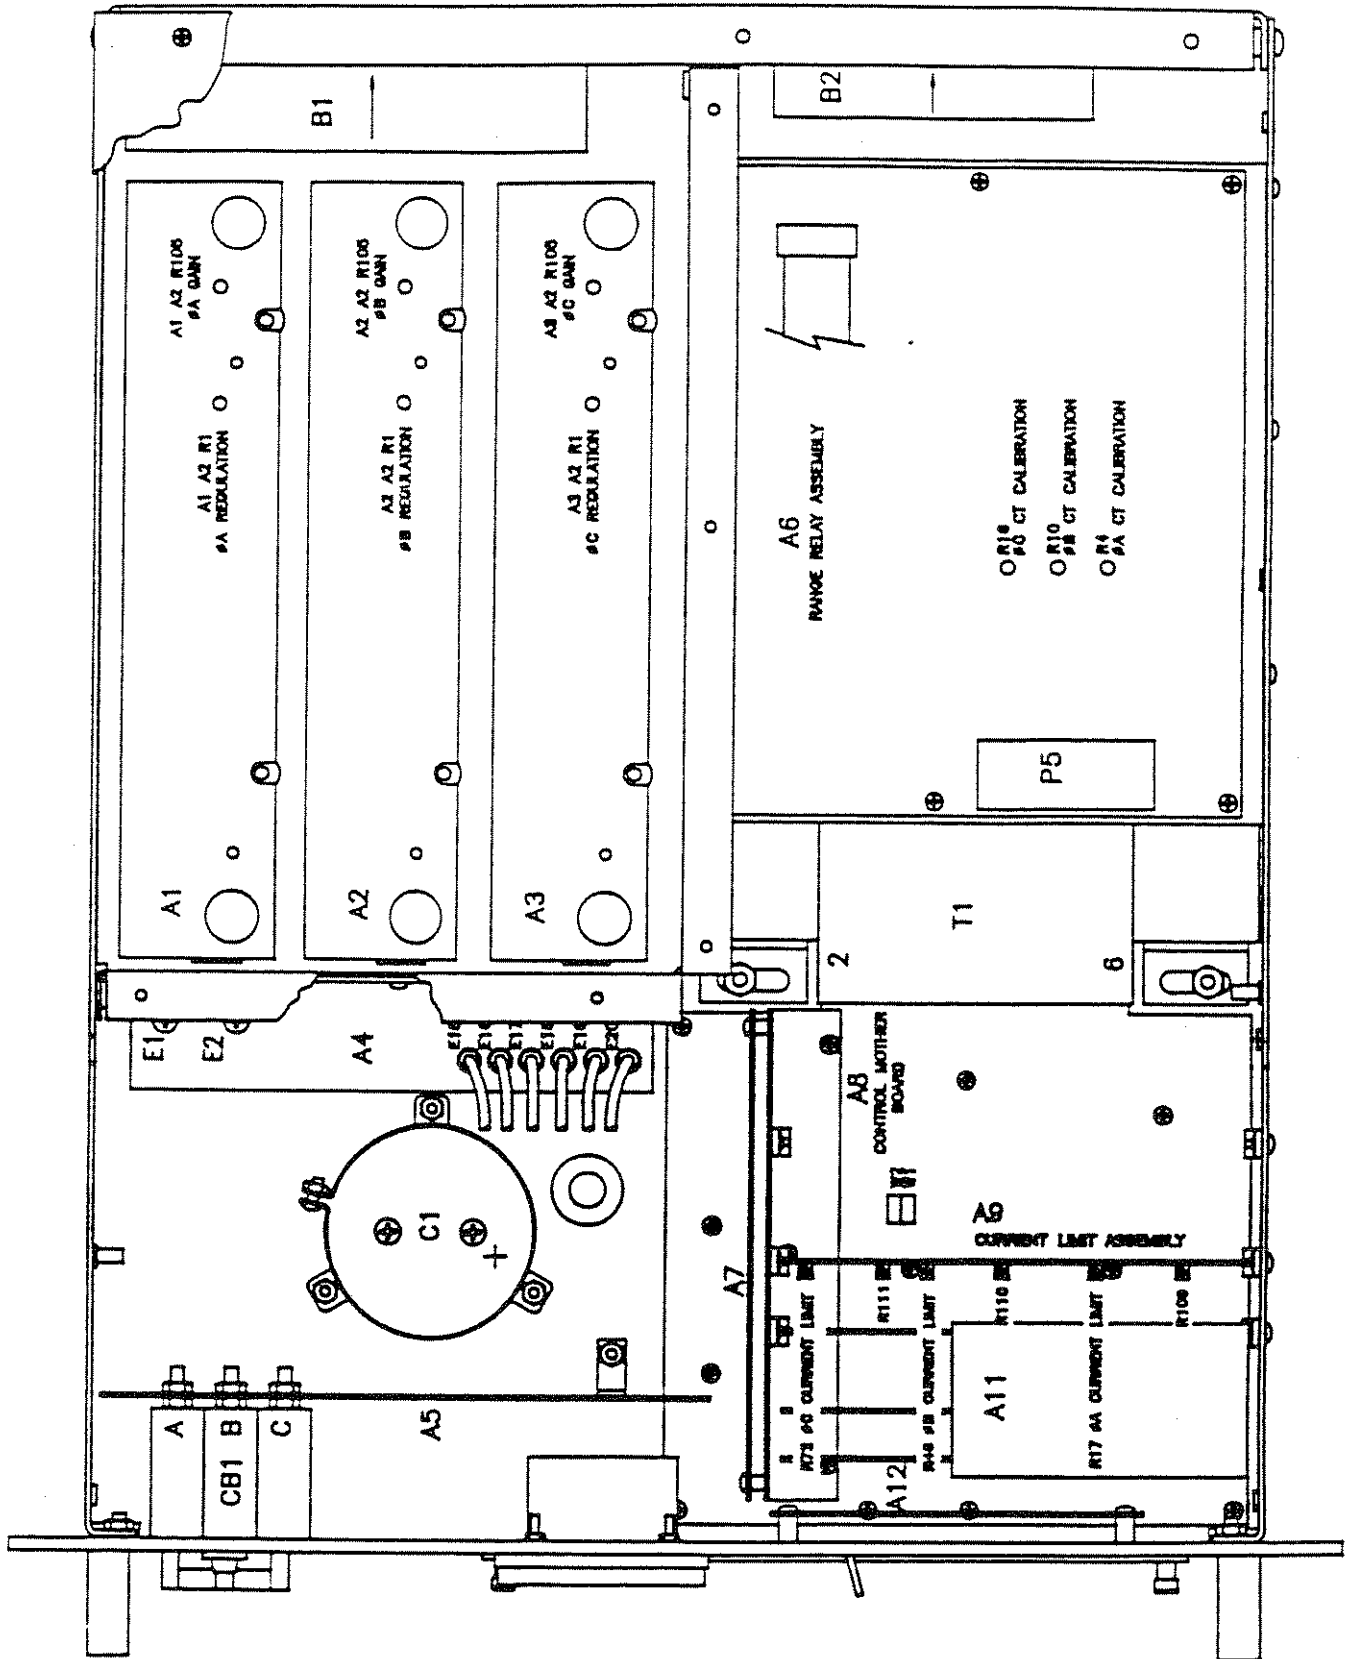

FIGURE 4-1
For all power systems except the 4500L-3M, remove jumper W2 on the Current Limit Board (See Figure 4-1) and all connections to the power output terminal block of each 4500L in the power system. Refer to Figure 4-1 for the location of all adjustments.
4. Repeat steps 1 through 3 for all amplifier channels in the AC power system. Refer to Figure 4-1 for the adjustment and meter location test points. All test points and adjustments are on the Range/Relay Board and Current Limit Board in the power source that has the load applied. Table 4-2 lists the adjustment and respective test points.